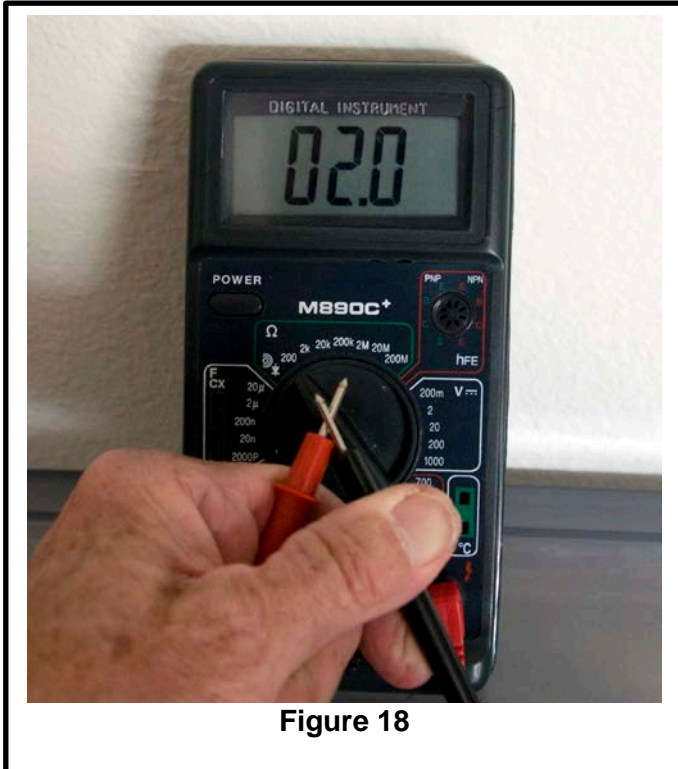

Figure 18
1. With the multimeter set to read Ohms on the lowest range, short the probes together and verify a reference reading for “0 Ohms” (or a very low value) as shown in Figure 18.